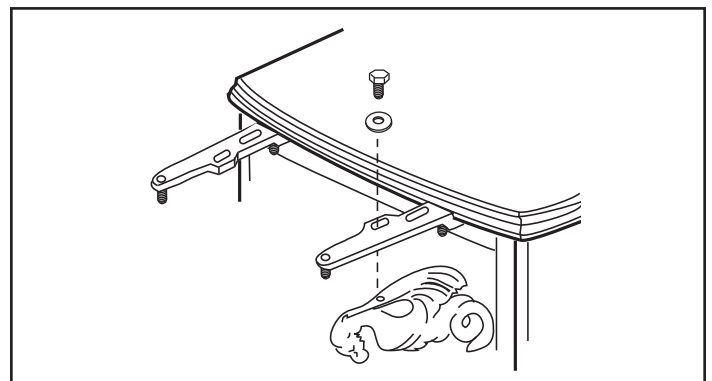

Figure 3 - Attach dragon bracket to front flat bracket.
3. Attach the dragon bracket to the flat bracket at the front of the stove using a flat washer under the head of a 1/4"-20 x 5/8" screw. (Figure 3) Tighten the screw only finger-tight.